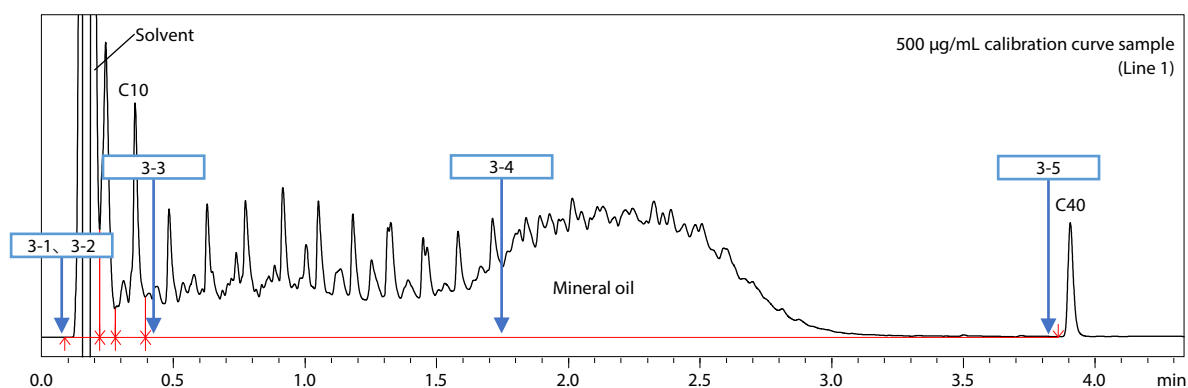

Fig. 6 Peak Integration Program Setting
3. The following peak integration programs were set (Fig. 6).